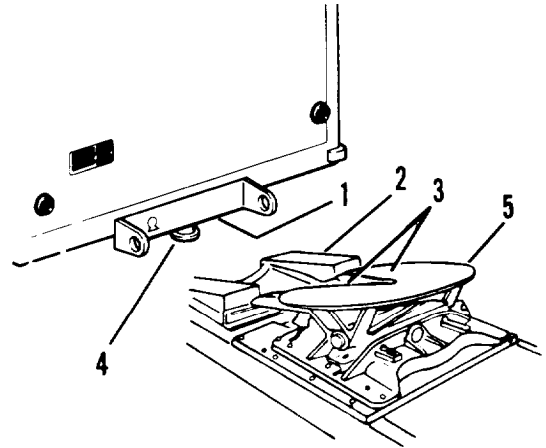

Figure 2-19. Completing coupling semitrailer to towing vehicle
- (1) Before kingpin plate (1, figure 2-19) starts to ride approach ramps (2), check that the kingpin plate (1) is above approach ramps (2). Adjust height as needed by using landing gear. Make sure towing vehicle fifth wheel coupler jaws (3) are open.
- (2) Slowly back the towing vehicle until coupler jaws (3) engage the kingpin (4).